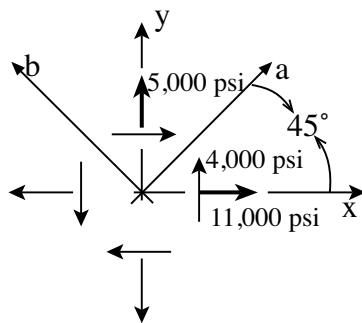

Figure 1
A thin plate lying in the xy plane (small thickness in the z direction) is acted upon by forces so that the stress components with respect to the xy axes are as given in Fig. 1.
- C. Display all results from Fig. 1 and part A above on a Mohr's circle. Also compute and include the magnitude of the radius of the circle and the magnitude of the angle between the stresses on the x plane and the plane of the principle stresses.